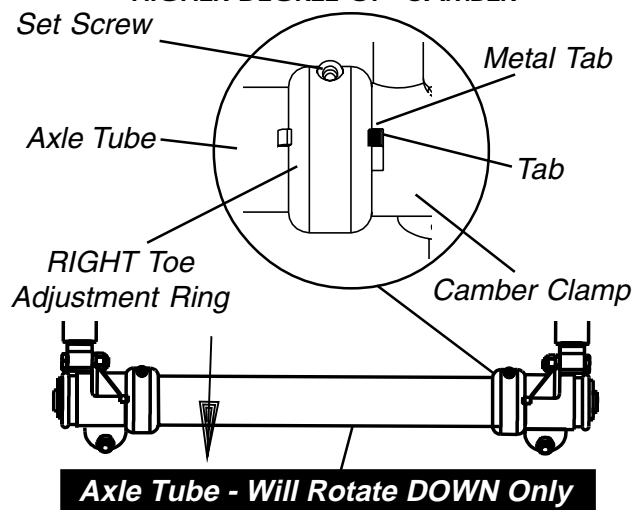

FIGURE 9 - ADJUSTING THE AXLE TUBE
ADJUSTING THE AXLE TUBE (FIGURE 9)
2. Loosen the set screw that secures each toe adjustment ring to the axle tube (FIGURE 9).
3. Using an "L" square, rotate the axle tube until the flat edge of the camber insert is at a 90° angle with the ground/floor as shown in FIGURE 9.
8. Perform one (1) of the following: